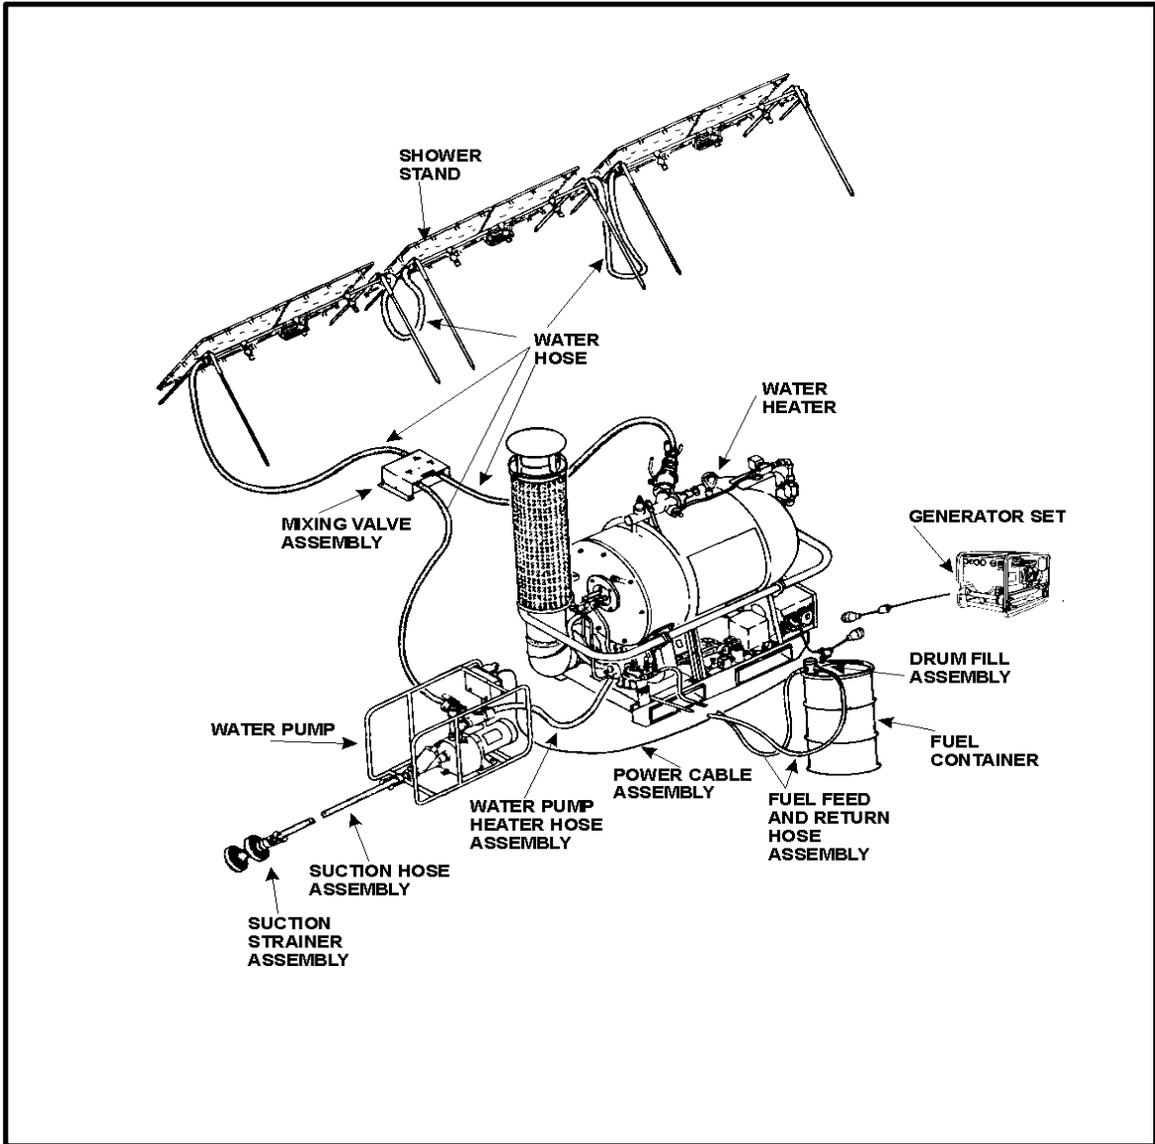

Figure 3-5. Shower equipment setup – nine-head shower unit
Shower Element. When the shower element arrives at the operating site, the driver backs the 2 1/2-ton truck as close as possible to where the equipment will be placed. The tents are unloaded first and set up. Then, the duck-boards are placed in the tents for flooring. Use Figure 3-5 as a guide for positioning shower equipment. The water pump, water heater, and generator must be placed on level ground.
- A cap is placed on the shower stand end connector. See TM 10-4510-206-14 for more details on setting up the shower unit. See Figure 3-5 for diagram on shower equipment setup.